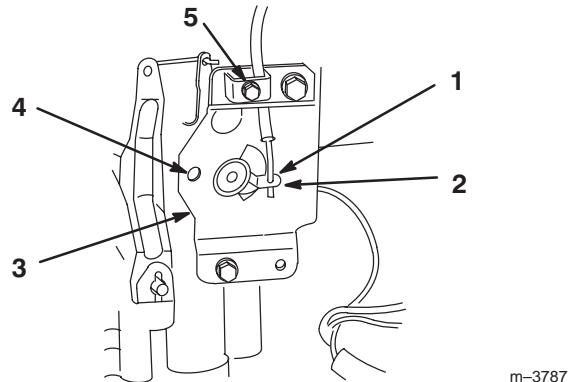

Figure 7
1. Place throttle control lever in FAST position. (Fig. 7).
2. Hook wire Z-bend into hole of speed control lever (Fig. 7).
3. Loosen cable clamp screw allowing cable installation, but do not tighten (Fig. 7).